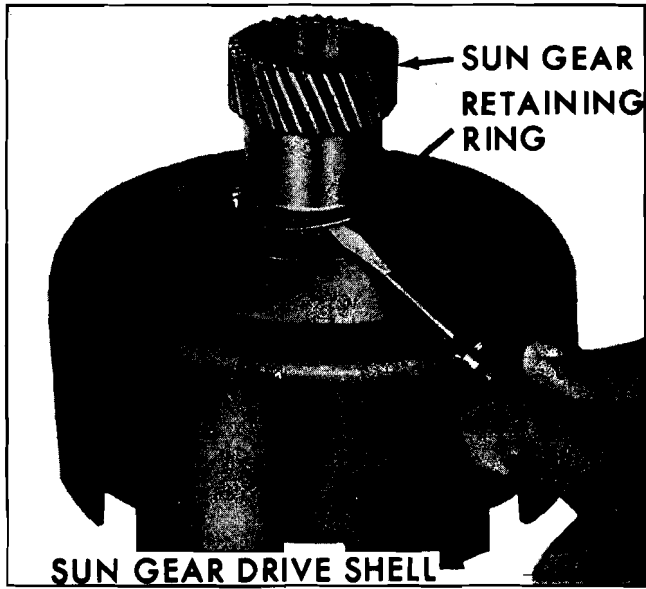

Fig. 7G-84 Removing Retaining Ring From Rear of Sun Gear Drive Shell
the forward clutch pressure plate and faced plate (Fig. 7G-82). There are three (3) pressure plates available which are identified by tangs adjacent to the source identification mark (Fig. 7G-83). If checking height is .0205"-.0560", use pressure plate with no tang; if height is .0560"-.0870", use pressure plate with one (1) tang; if height is .0870"-.1430", use pressure plate with two (2) tangs.